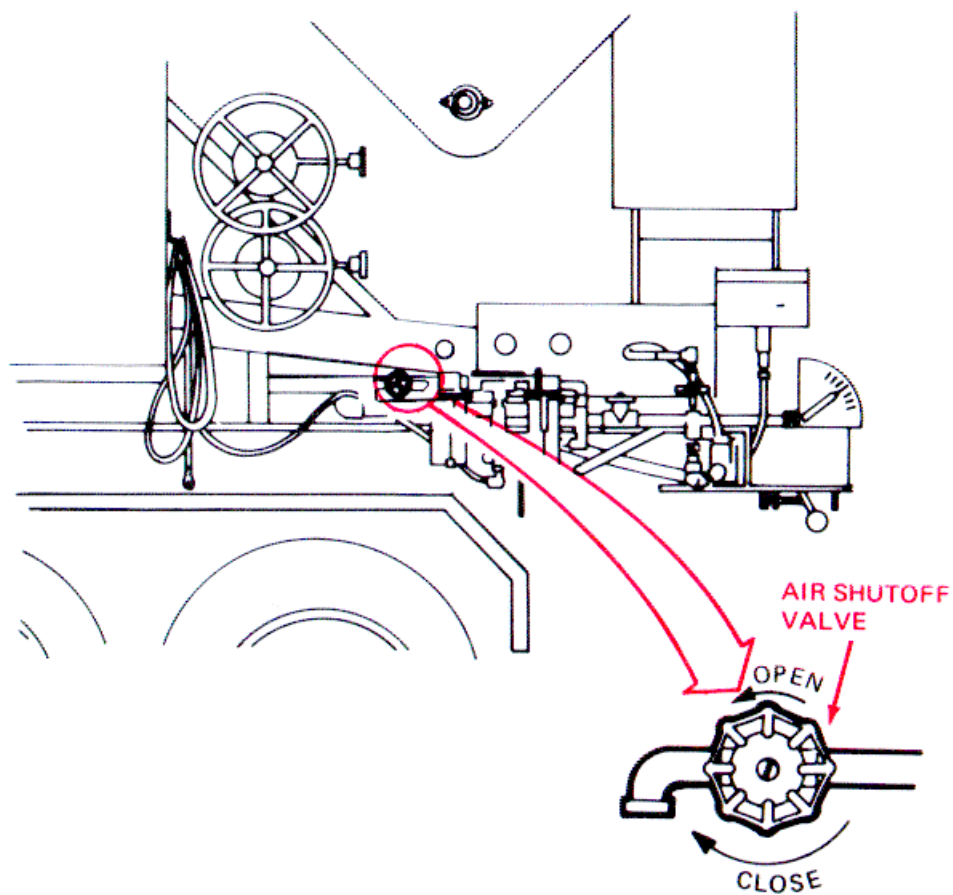

Figure 2-43. Air Shutoff Valve.
- e. Perform Your After (A) PMCS. See table 3-1.
- f. Close the Air Shutoff Valve. (See fig. 2-43.) Turn it all the way clockwise.
- (1) Push down the swivel lock arm Swing the mixing trough to the center position, as shown in Figure 2-43. The lock arm must remain in the down position, otherwise the latch shield for the mixing trough protective covers may bend or otherwise cause the swivel ring lock arm to break off.